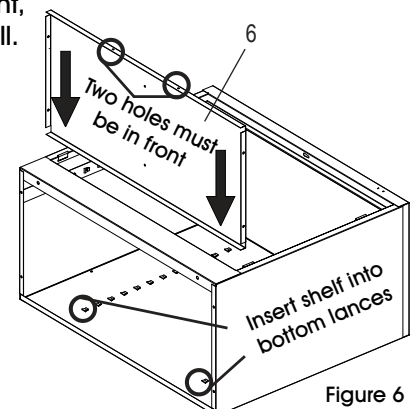

Figure 6
4. Attach the right side (3) to the back in the same manner as done in step 2, again making sure that the flange is around the back and that the lances on the shelf adjustment strips are pointed in the same direction as those on the back and left side.
6. Place rear flange of the bottom (6) into the bottom lances of the back. The flange with the two holes should face the front, hanging over the sill. Insert bolts through the bottom and sill with the head facing the front of the unit. Secure with two nuts. (See Figure 6)